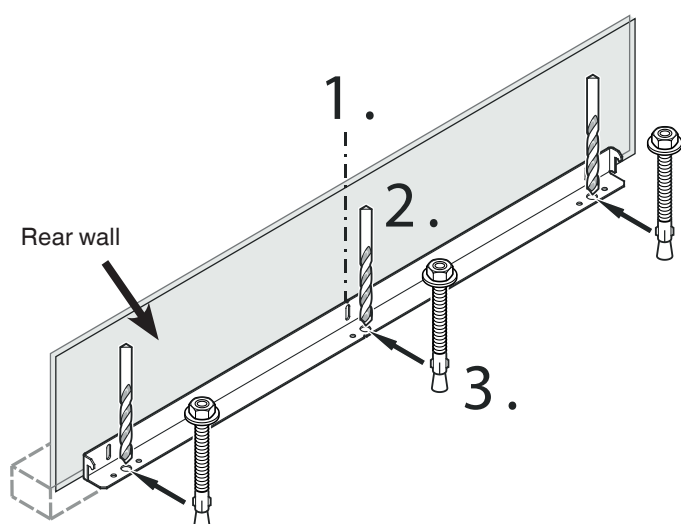

Figure 4
Mounting the anti-tipping device on concrete floors - figure 4 - 5
2. Drill 10 mm diameter holes in the positions shown in **figure 4** using a carbide drill bit. The depth of the holes must exceed the overall length of the anchors. Clean the holes after drilling.